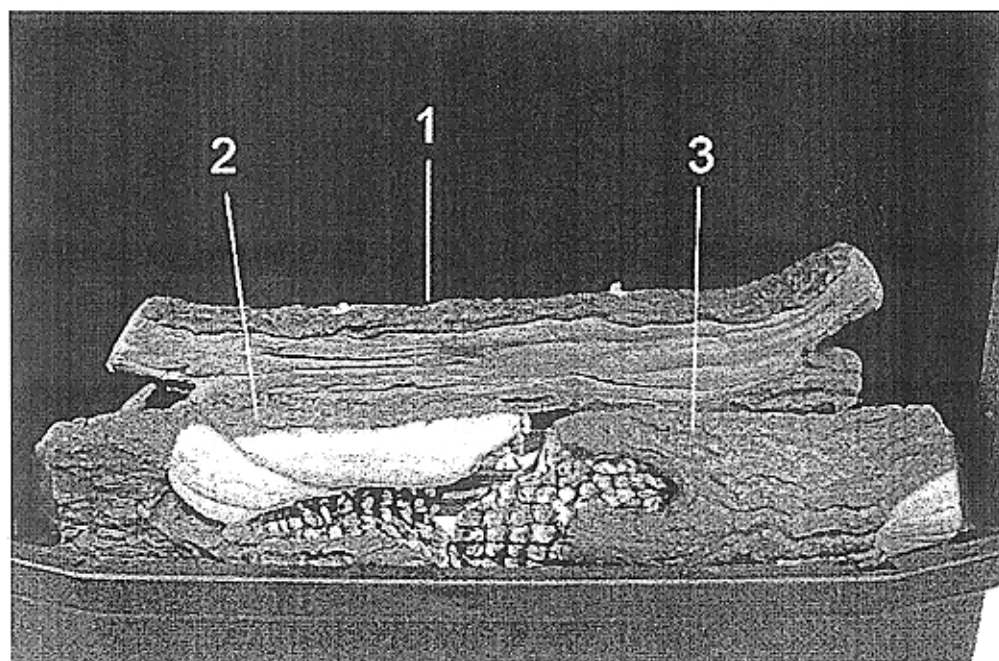

Figure 2
STEP 1: Put log1, log2 and log3 on the firebox plate fixed by nuts. (See Figure 2).